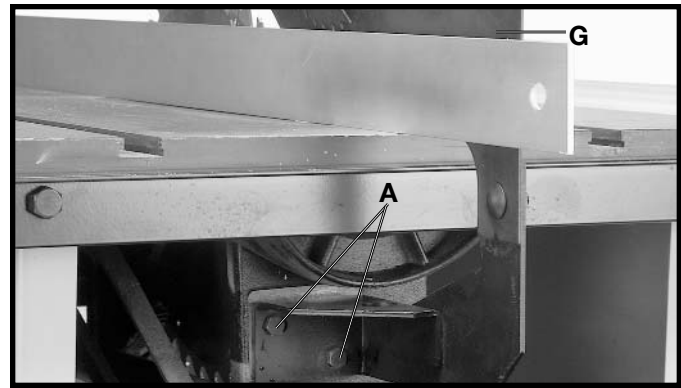

Fig. 37
10. Using a straight edge, check to see if the saw blade is aligned with the rear of the splitter (G), as shown in Fig. 37. If alignment is necessary, loosen the screws (A) Fig. 37, align splitter (G) with the saw blade, and tighten two screws (A).